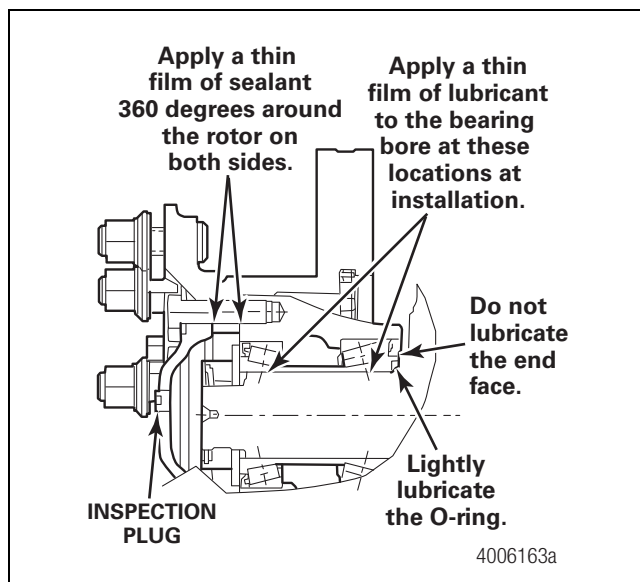

Figure 6.21
2. Apply a light coat of anti-seize lubricant such as Molykote-D paste to the bearing bore and to the O-ring before installing the hub and spindle. Do not apply any lubricant to the spindle or on the bearing end face. The spindle should be clean and free of any contamination. Figure 6.21.